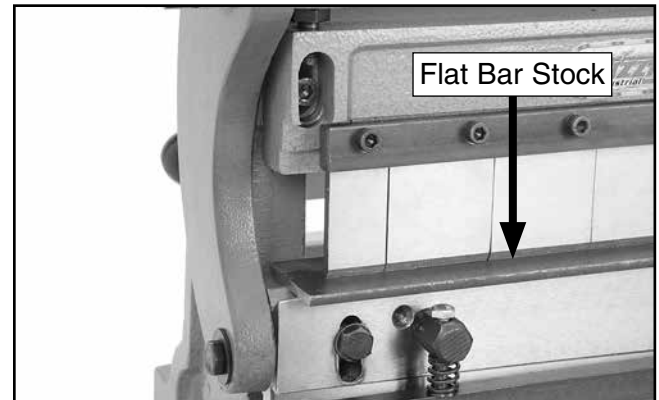

Figure 51. Metal bar laid across receiver and making contact with fingers.
3. Place a piece of flat bar stock or a heavy metal ruler across finger receiver, as shown in **Figure 51**.
4. Use hand crank to raise metal bar until making contact with fingers, as shown in **Figure 51**.